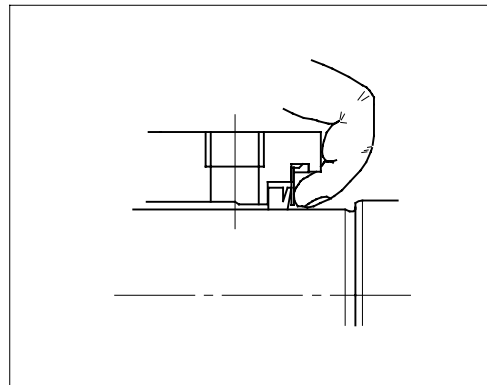
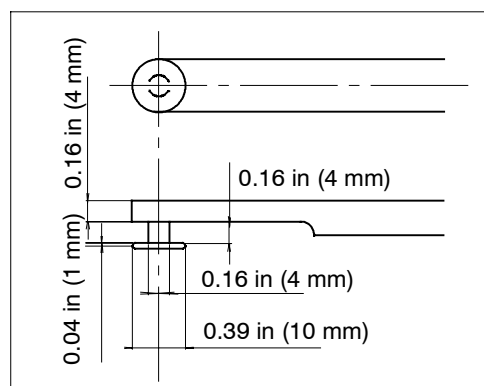

Fig. 14
Fig. 15
- 9 After all other parts have been installed, push the plate (550.01) into the groove in the cover plate for seal (471.01) so that the entire rubber lip settles straight in the groove. Fig. 14. To make sure that the lip is correctly situated, use a tool shown in Fig. 15. Place the tip of the tool into the groove and turn around the cover plate for seal.